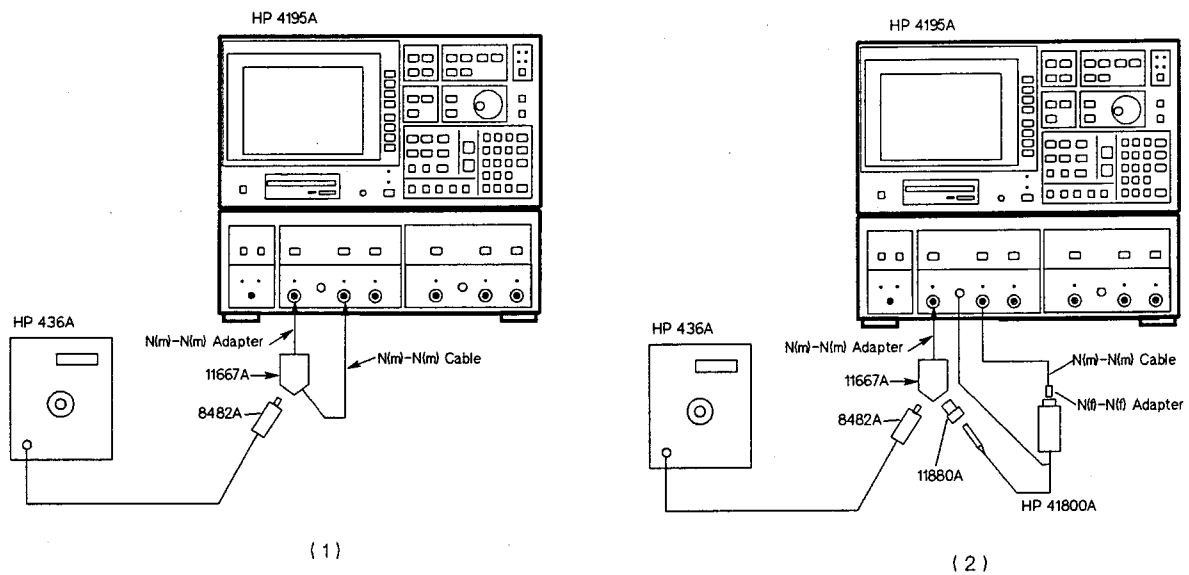

Figure 4-2. 1 dB Gain Compression Test Setup
4. Connect the power splitter to the HP 4195A, and connect the power sensor to the power splitter as shown in Figure 4-2 (1).
8. Disconnect N(m)-N(m) Cable from the power splitter, and connect the HP 41800A between the power splitter and N(m)-N(m) Cable, as shown in Figure 4-2 (2).